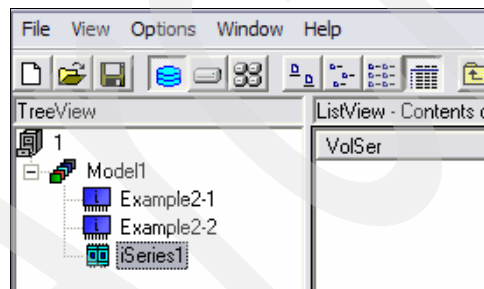

Figure 4-51 Models for both systems
4. After the reports of the second system are inserted, observe that the models for both workloads are present in TreeView panel as shown in Figure 4-51. Double-click the **iSeries** disk subsystem.